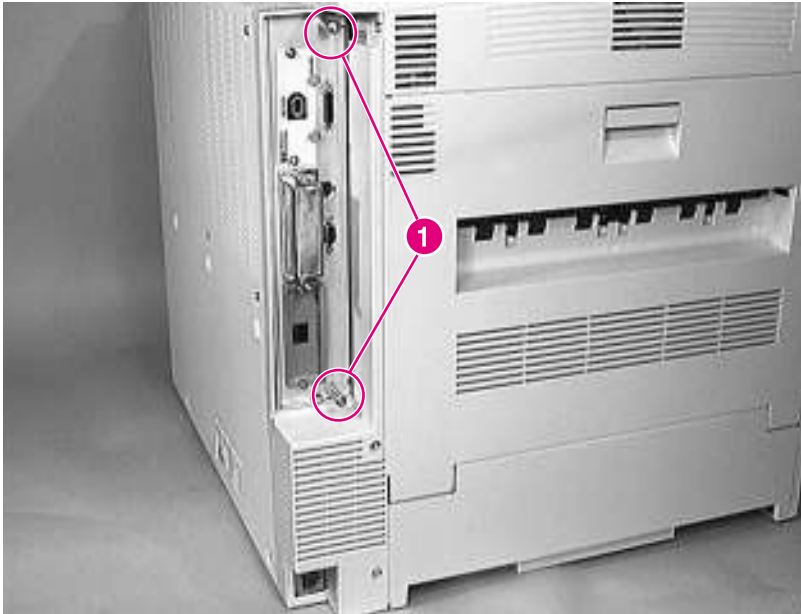

Figure 6-35 **Formatter Assembly**
- 2 Loosen the two captive screws (figure 6-35, callout 1), and slide the Formatter PCA out of the chassis.
- 1 Remove the Formatter Assembly (see figure 6-35 on page 305).
- Formatter Assembly (see figure 6-35 on page 305)